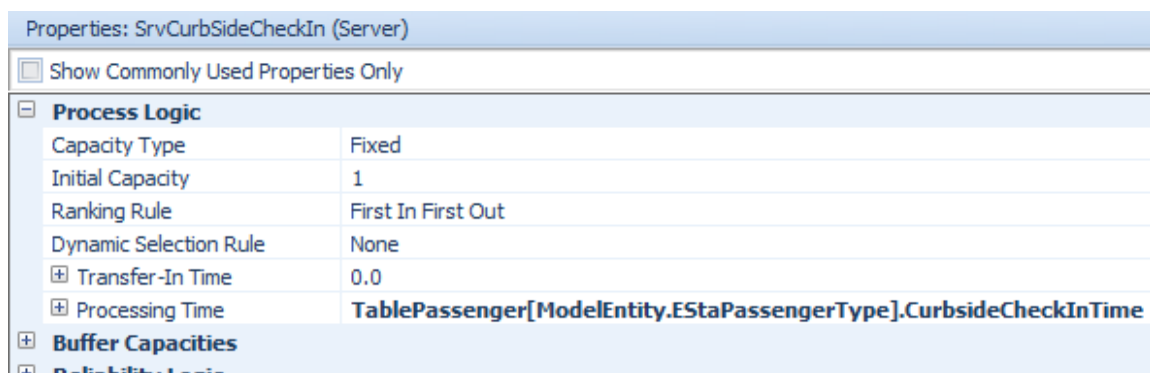

Figure 4.12: Utilizing the Table to Specify the Processing Times
Step 8: Now we must specify the processing times at the check-in stations to depend on the particular entity's passenger type, shown in Figure 4.12. The passenger type is used as the "row reference" in the table. Thus, the specifications needed for the new processing times use the **EStaPassengerType** state variable as: